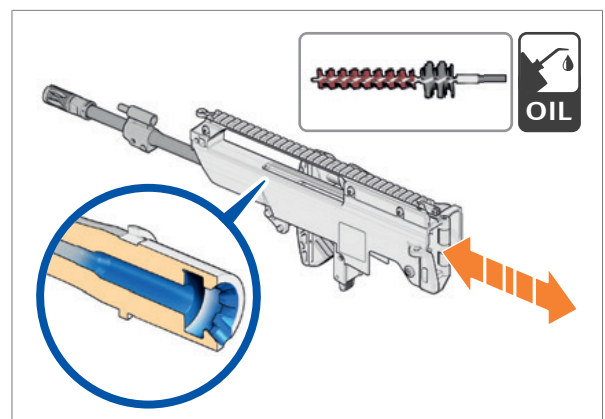

Fig. 112: Clean chamber and locking piece
16. Pull oiled chamber cleaning brush through the chamber and locking piece several times (Fig. 112).